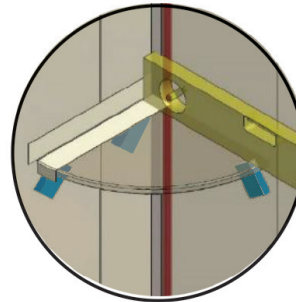

FIG 28.
- Place the shelf in position to confirm that it is level. If required, adjust the stabiliser blocks to suit. Optional - apply insulation/gaffa tape to shelf/wall to prevent bleeding of the adhesive onto the wall or shelf.(**FIG 28**).